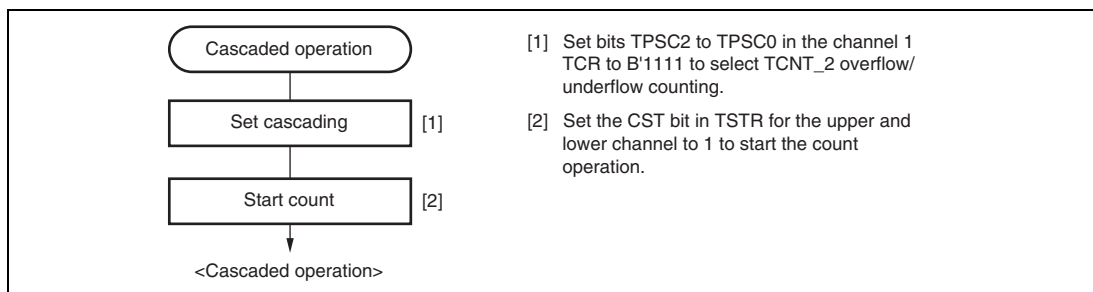

**Figure 11.18 Cascaded Operation Setting Procedure**
**Example of Cascaded Operation Setting Procedure:** Figure 11.18 shows an example of the setting procedure for cascaded operation.